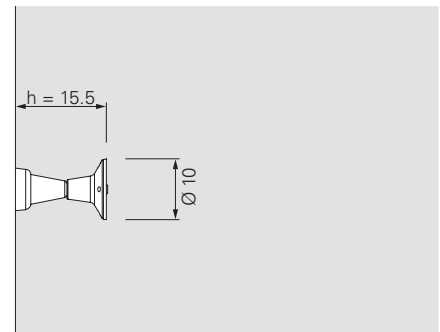

Fig. A5.04a
1. Fully insert Screw-On Cone-2 M24/DW20 (**21**) into Threaded Anchor Plate DW20 (**20**). (Fig. A5.04a)
Anchoring depth  $h = 15.5$  cm. (Fig. A5.04a)